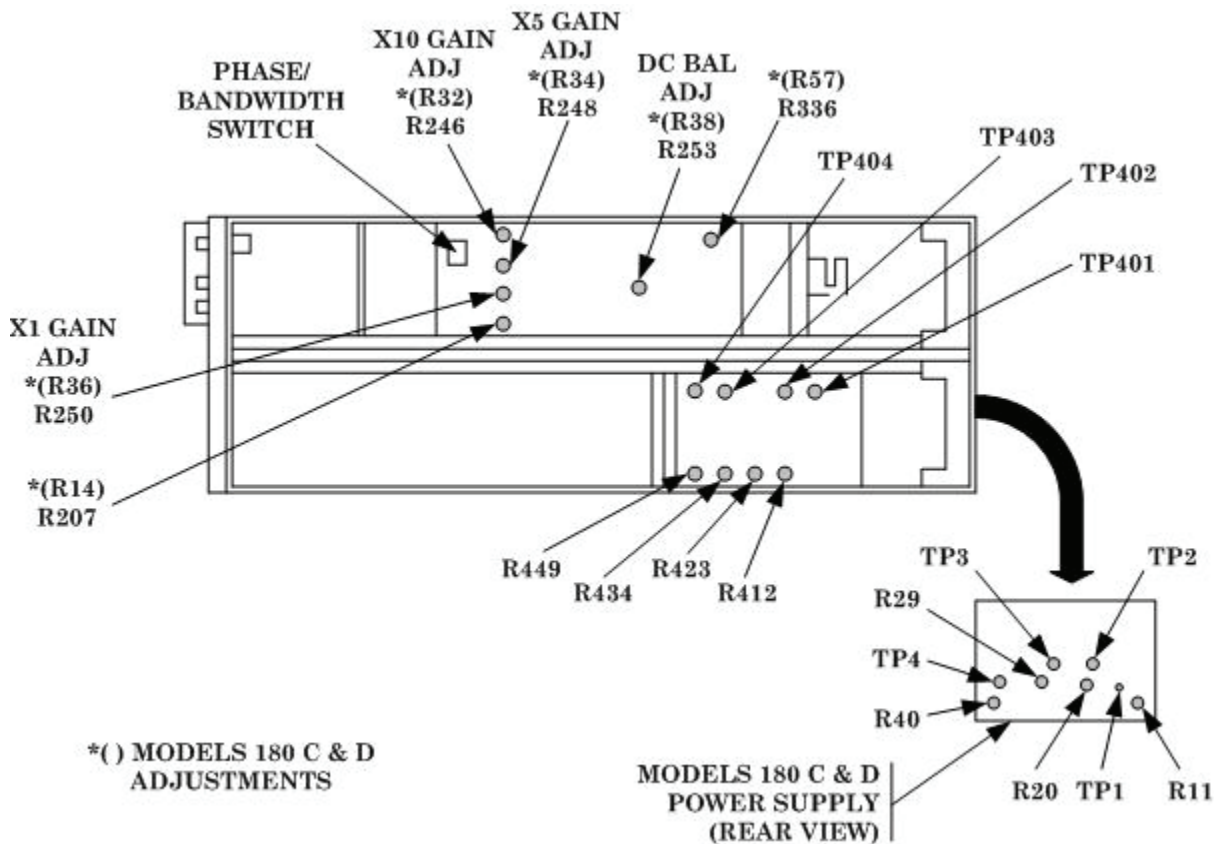

Figure 1. Oscilloscope - right view.
c. Position controls as listed in (1) through (8) below:
(8) **PHASE/BANDWIDTH** switch (fig. 1) to **BANDWIDTH**.
d. Position vertical amplifier controls as listed in (1) through (8) below:
- (5) **MAIN** and **DELAYED TRIGGER LEVEL** controls to **0**.
- (6) **SWEEP MODE** switch to **AUTO**.
- (7) **MAIN EXT \div 10/EXT/INT/LINE** switch to **INT**.
- (8) **DELAYED INT/AUTO/EXT/EXT \div 10** switch to **AUTO**.
- (9) **DELAY (DIV)** control to **0**.
- (10) **MAIN** and **DELAYED SLOPE** switches to **+**.
- (11) **MAIN** and **DELAYED ACS/ACF/AC/DC** switches to **AC**.
- i.** Set **HORIZONTAL DISPLAY** control to **EXT CAL**. If display (spot) on **TI** is not centered, adjust **R207** (**R14** for models 180C and D) (fig. 1) to center display (spot) at center of graticule.
- (1) Adjust oscilloscope calibrator output for 0 percent on **err** readout.
- (2) Adjust R250 (R36 for models 180C and D) **X1 GAIN ADJ** (fig. 1) for 10 divisions of deflection on TI.
- (3) Adjust oscilloscope calibrator output for 0 percent on **err** readout.
- (4) Adjust R248 (R34 for models 180C and D) **X5 GAIN ADJ** (fig. 1) for 10 divisions of deflection on TI.
- (5) Adjust oscilloscope calibrator output for 0 percent on **err** readout.
- (6) Adjust R246 (R32 for models 180C and D) **X10 GAIN ADJ** (fig. 1) for 10 divisions of deflection on TI.
- (1) Connect multimeter between TP404 (fig. 1) and chassis ground. If multimeter does not indicate between -99.90 and -100.10 V, perform **b** (1) below.
(2) Move positive lead to TP401 (fig. 1). If multimeter does not indicate between 99.90 and 100.10 V, perform **b** (2) below.
(3) Move positive lead to TP402 (fig. 1). If multimeter does not indicate between 14.9 and 15.1 V, perform **b** (3) below.
(4) Move positive lead to TP403 (fig. 1). If multimeter does not indicate between -12.5 and -12.7 V, perform **b** (4) below.
(5) Connect multimeter between TP1 (fig. 1) and chassis ground. If multimeter does not indicate between 99.9 and 100.1 V, perform **b** (5) below.
(6) Move positive lead to TP2 (fig. 1) and chassis ground. If multimeter does not indicate between 14.90 and 15.10 V, perform **b** (6) below.
(7) Move positive lead to TP3 (fig. 1) and chassis ground. If multimeter does not indicate between -12.5 and -12.7 V, perform **b** (7) below.
(8) Move positive lead to TP4 (fig. 1) and chassis ground. If multimeter does not indicate between -99.9 and -100.1 V, perform **b** (8) below.
(1) Adjust R449 (fig. 1) for -100.00 V indication on multimeter (R).
(2) Adjust R412 (fig. 1) for +100.00 V indication on multimeter (R).
(3) Adjust R423 (fig. 1) for +15.0 V indication on multimeter (R).
(4) Adjust R434 (fig. 1) for -12.6 V indication on multimeter (R).
(5) Adjust R11 (fig. 1) for +100 V indication on multimeter (R).